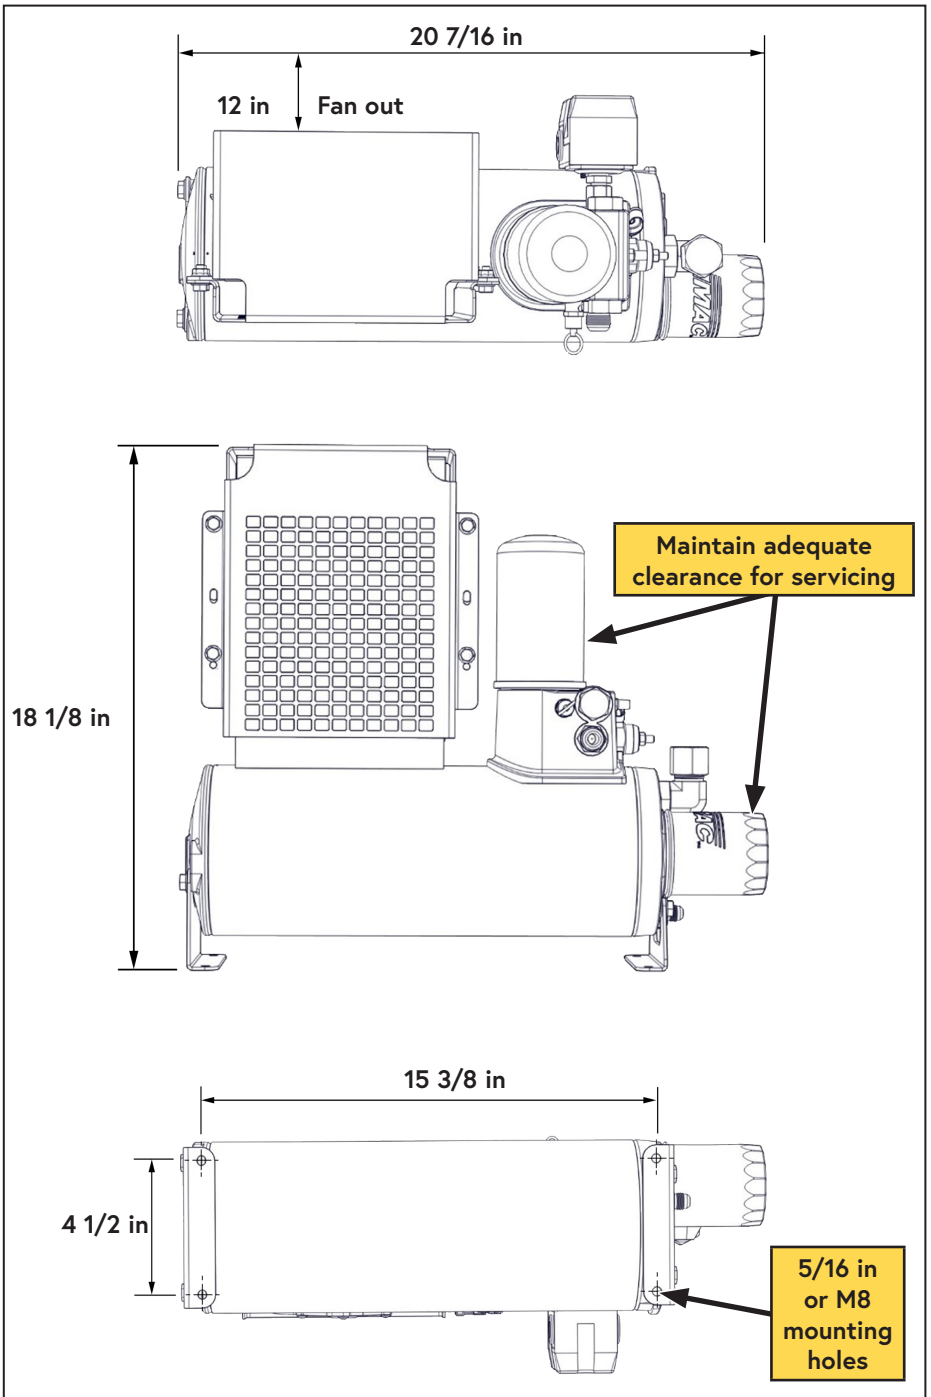

Figure 31 — Minimum WHASP Tank mounting clearances
Refer to (Figure 31) for mounting dimensions.
- Connect the 1/4 in PTFE tube to the 1/4 in push-to-connect (oil scavenge) fitting near the coalescing filter (Figure 31).